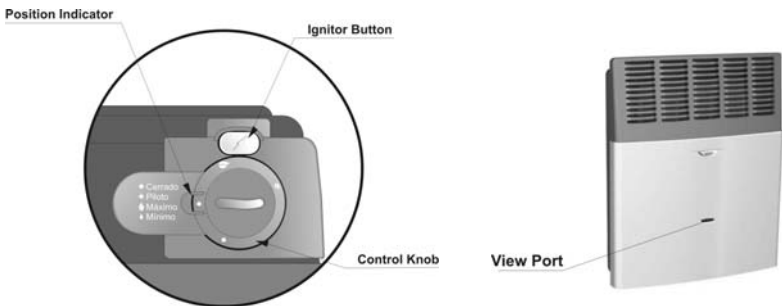

Fig. 6
Lighting Instructions - Standard Models (Fig. 6)
- Push in the gas control knob from ● (Off) and turn it to ★ (Pilot) position (Fig. 6).